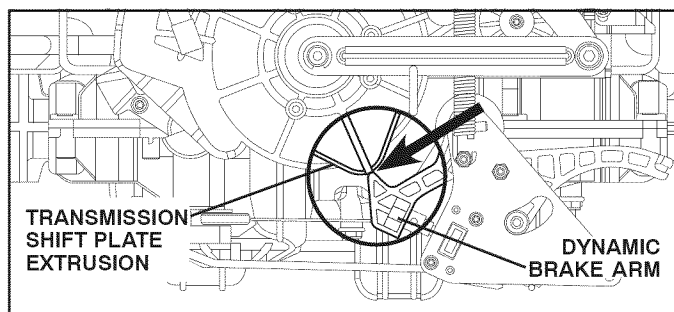

Fig. 36
- Move the shift plate on front of transmission so that the extruded area centerline is in line with the dynamic brake arm. (See Fig. 36)